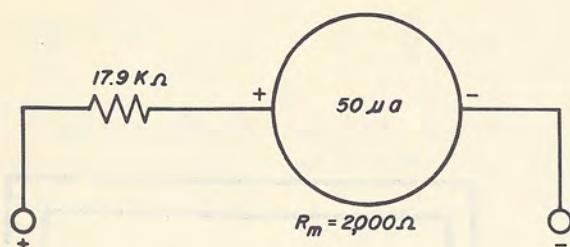

Fig. 11-10
Step 5. On the drawing of the multimeter movement you made in Step 1, add a 17.9 k-ohm resistor in series with the meter movement. Your drawing should look like Fig. 11-10.